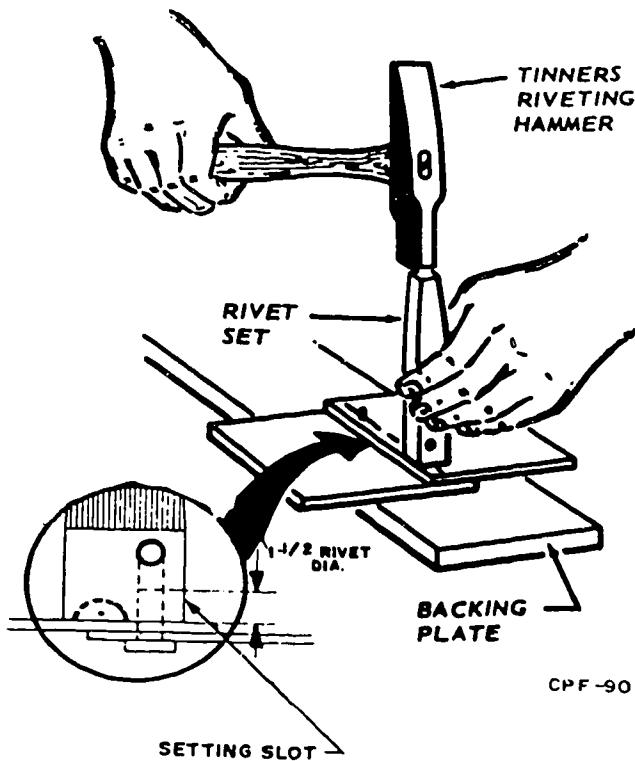

Figure 2-19. Setting rivets.
Rivets are usually installed by placing the manufactured head against a solid surface, such as a backing plate, and following the steps shown in figures 2-19, 2-20, and 2-21. This procedure is used when setting rivets with a hand riveting set. The steps illustrated are necessary to insure a strong rivet with a proper head and to prevent the joint from being distorted.
If the setting step, illustrated in figure 2-19, is not performed correctly, the sheets may not seal tightly against each other and may cause the rivet to swell between the sheets during the upsetting step, as shown in figure 2-20. A second problem often appears when the rivet head is not seated up tight against the metal. This causes the rivet to swell below the metal as shown in figure 2-22. Either problem makes the rivet too short to form a proper head, causes the metal around the hole to dimple (bulge), and fails to form a strong joint.
**Drawing Rivets.** Drawing rivets is a process where drilling or punching holes is not necessary. This procedure is used with light gage sheet metal, such as 30, 28, and 26 gage. A solid rivet is placed head down on a bench plate or stake with the joint placed over the rivet. The joint is tapped lightly with a mallet to make an impression of the rivet shank. The set, shown in figure 2-19, is placed over the impression in the joint, and the set is tapped with a riveting hammer to draw the rivet through the light sheet metal. This method is useful when manufacturing funnels and cylinders and joining light sheets.